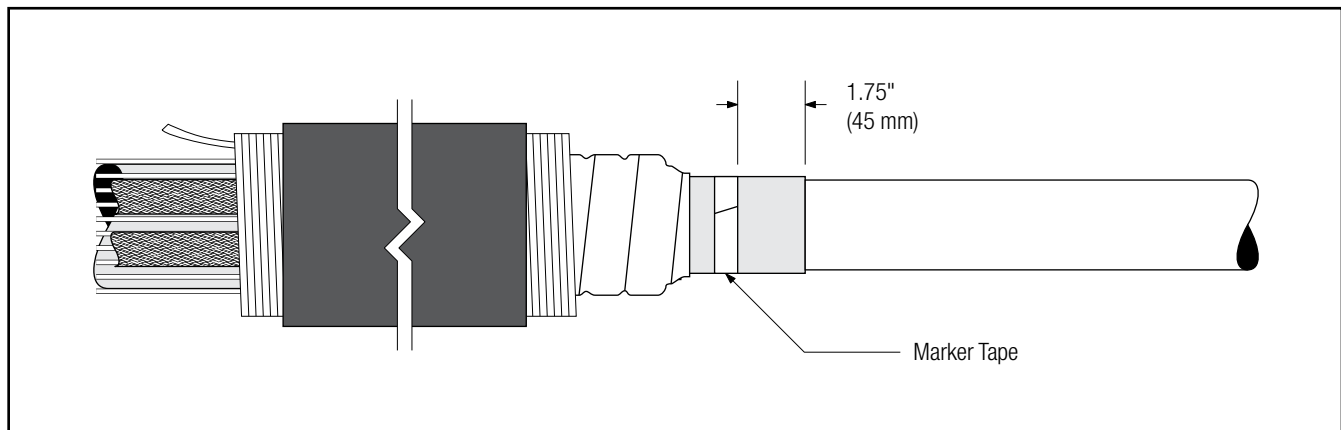

Figure 21
- 6.2 Place a marker tape on the cable semi-con located 1.75" (45 mm) from the end of the semi-con. (Figure 21)